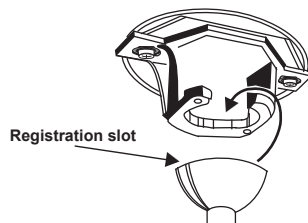

Fig.8
Step 7. Place the downrod ball into the hanger bracket socket. This will allow you to make the electrical connections. (Fig.8)